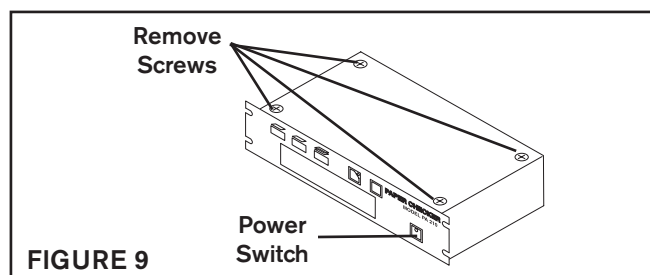

FIGURE 9
Refer to Figure 9 for descriptions of the various splice types and dimensions and observe the following rules which apply to all splice detection.
Splice thickness must always be at least 0.002 In. [0.05 mm]. It may be necessary to splice as at A or C to achieve this minimum value (See Figure 9).
<p>Abnormal</p> 	Lack of response is often caused by the tape being half or less than half the thickness of the web when using type B single butt splice. This situation can also be corrected by changing to a type A or C splice by using a thicker tape (See Figure 9).
1. Turn power OFF using the Power Switch located on the front panel of the PC210 (See Figure 9).
2. Remove the four screws and Top Cover from the PC210 (See Figure 9).
3. Turn power ON using the Power Switch located on the front panel of the PC210 (See Figure 9).
7. Turn power OFF using the Power Switch located on the front panel of the PC210 (See Figure 9).
8. Replace the Top cover and the four screws (See Figure 9).